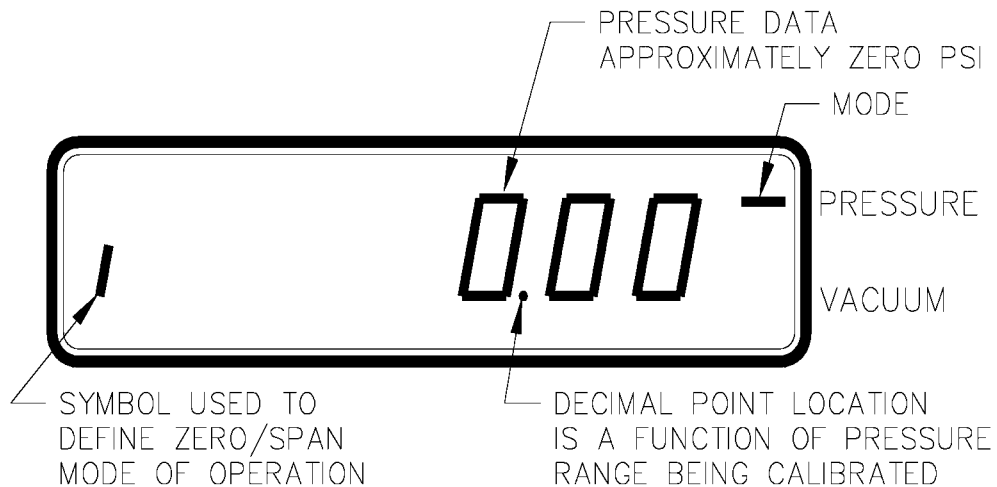

Figure 3-2. Zero/Span calibration for Gage-Only Units
In the calibrate mode, the UPC5100/UPC5110's numerical display is used to provide operator prompting symbols as well as displaying the various data formats. For example, in Figure 3-2, the data format shown is that obtained as soon as the ZERO/SPAN position of the rotary switch is selected.
Selecting the ZERO/SPAN position on the Condec Calibration Module (PN 60109) places the instrument into its ZERO/SPAN calibration mode. The display is shown in Figure 3-2.
1. Set the Condec Calibration Module (PN 60109) to the ZERO/SPAN position (see Figure 3-2 on page 10 for display reading).
4. Turn the DISPLAY SELECT switch (16) to the CURRENT position. Display will read *20.000*.